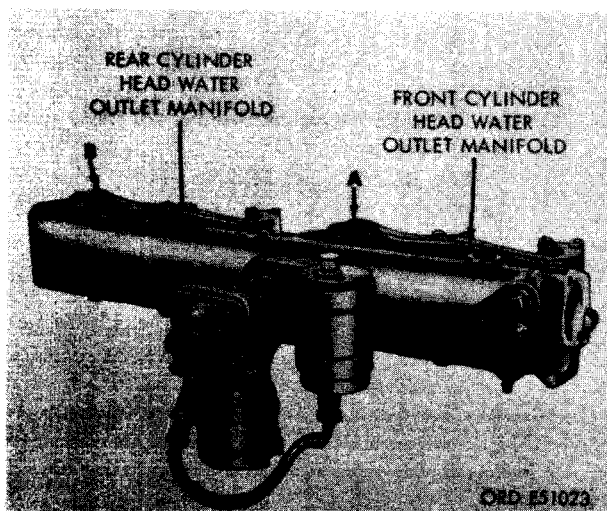

FIGURE 175. REMOVING OR INSTALLING CYLINDER HEAD WATER OUTLET MANIFOLDS.
- (1) Figure 175. (A) Loosen the two 1-5/8-inch hose clamps and remove front cylinder head water outlet manifold from intake manifold. (B) Loosen the two 1-5/8-inch hose clamps and remove rear cylinder head water outlet manifold from intake manifold.
c. Assembly. Refer to figures 175 through 177 an reverse the sequence of illustrations and instructions to assemble the intake manifold assembly. Use a new intake manifold elbow gasket. Replace the turbosupercharger -to - intake manifold hose when necessary.